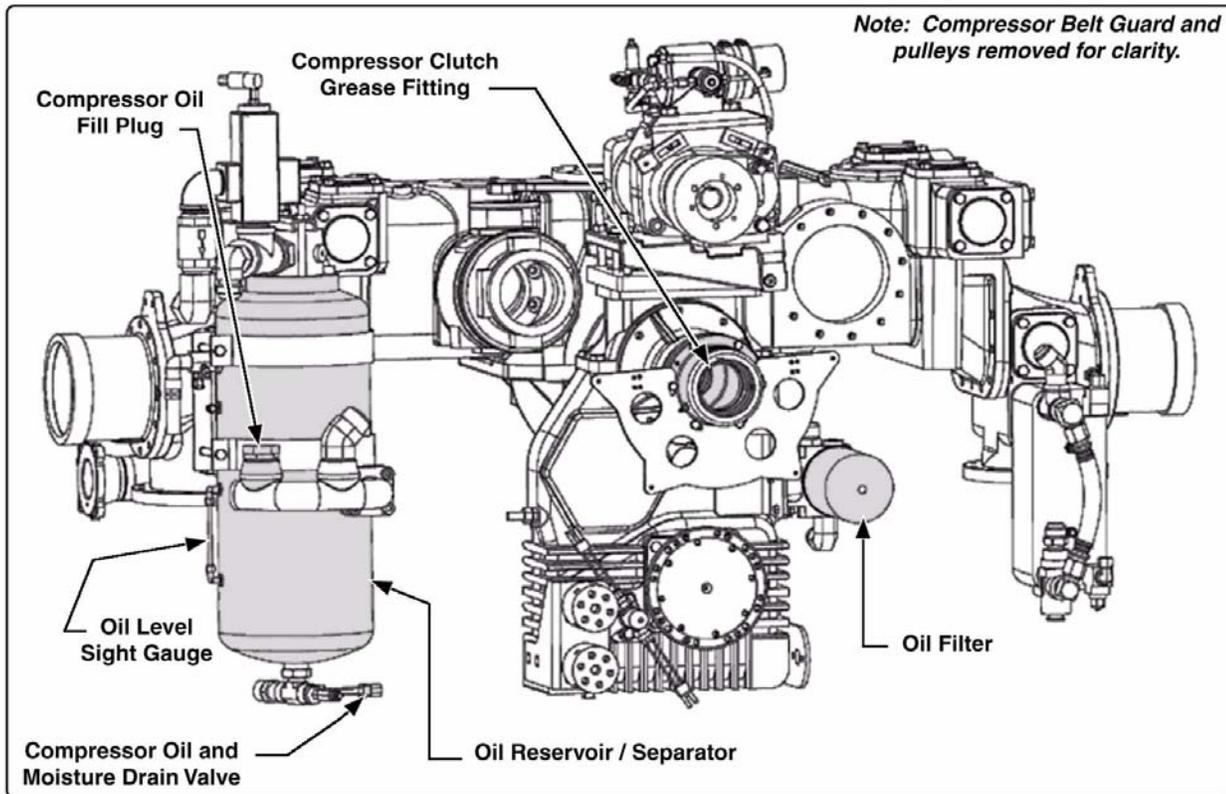

Figure 7-1: Maintenance Overview
(See Figure 7-1: ‘Maintenance Overview’ on page 52.)
2. Place a suitable container 8 to 10 ounces (237 to 296 ml) under the compressor drain valve and remove the brass valve plug. (See Figure 7-1: 'Maintenance Overview.')
1. Locate the oil reservoir separator and air compressor oil filter on the apparatus. (See Figure 7-1: 'Maintenance Overview' on page 1-52.)
(See Figure 7-1: 'Maintenance Overview' on page 52.)
1. The compressor clutch grease fitting is located on the clutch, near the bearing housing. (See Figure 7-1: 'Maintenance Overview' on page 52.)